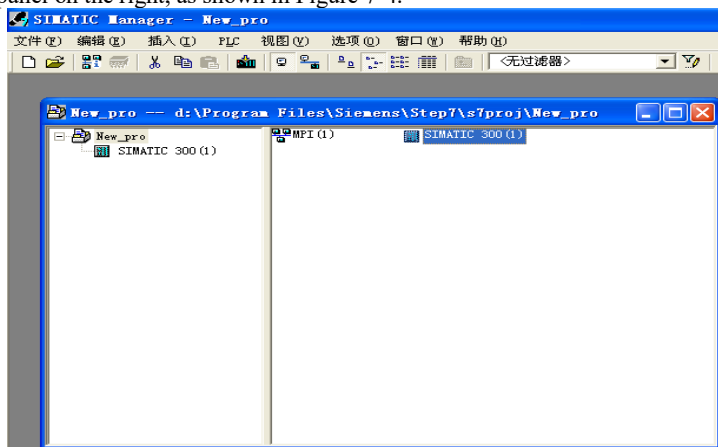

Figure 7-4
1. The project structure directory has one more subdirectory, which is automatically named SIMATIC 300 (1). At the same time, a new object icon will appear in the content panel on the right, as shown in Figure 7-4.